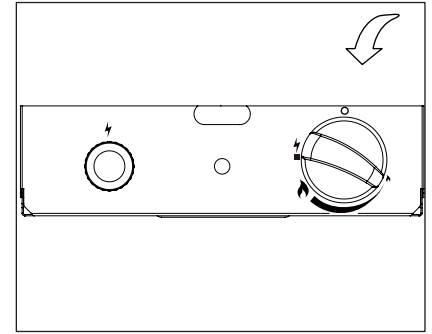

Figure 4
8. Push in and turn the control knob to the "HIGH" (🔥), then release control knob. If you want a lower temperature, push in the control knob and turn counterclockwise to "LOW" (🔥) (Figure 4).